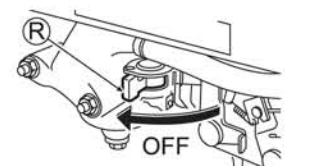

Fig. 15
3. Set Fuel cock (R) to "OFF". (See Fig. 15)